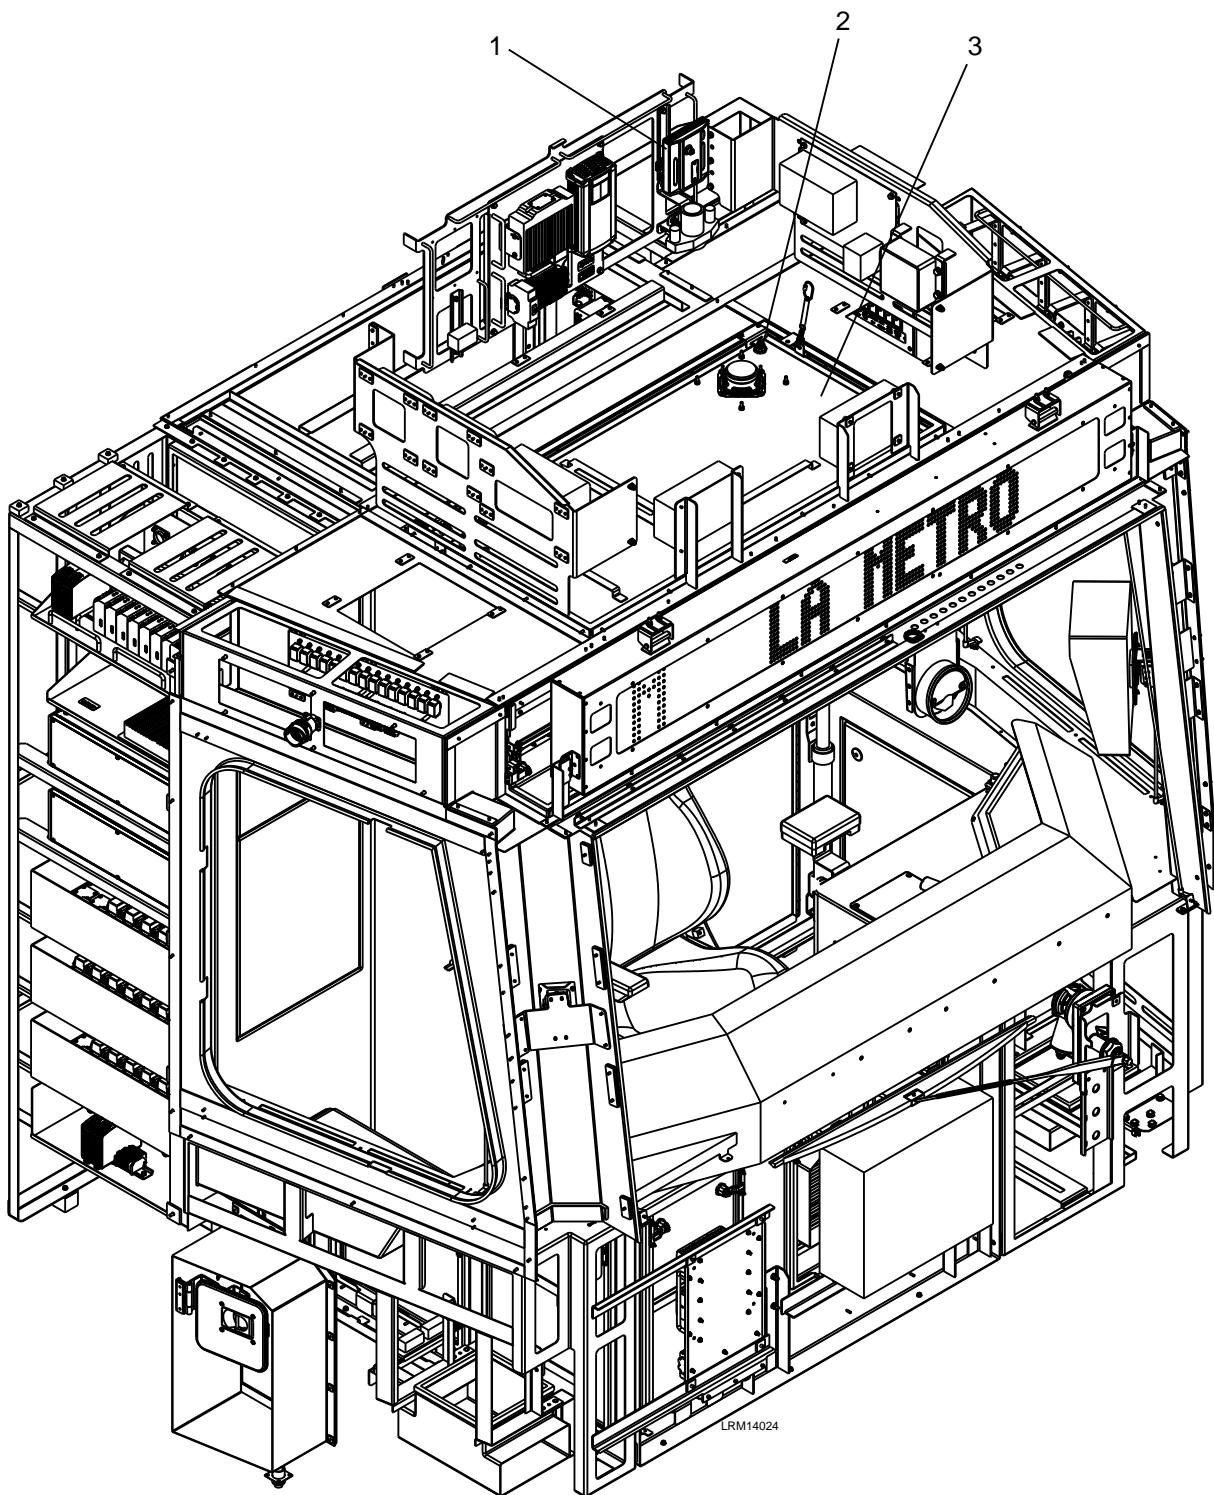

Figure 8-10: Ethernet Remote Input / Output (RIO)
1. Unlock the two locks (2) and lower the cab ceiling panel (3) to access the Ethernet Remote I/O (1) and disconnect the electrical connection. See Figure 8-10.
2. Remove the Ethernet Remote I/O (1) by unlatching the lever located on the side.
3. Carefully remove the Ethernet Remote I/O (1).